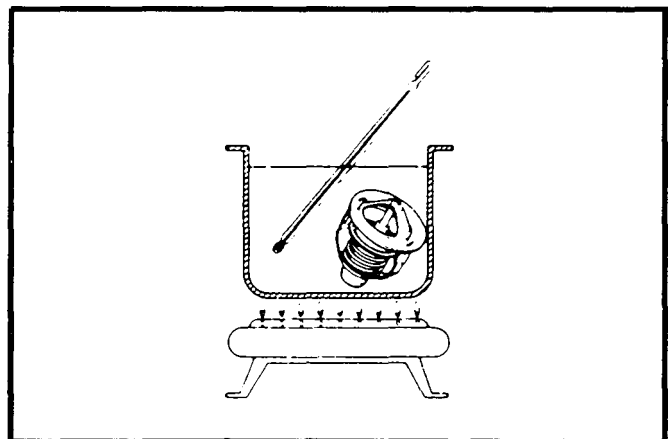

Figure 2.
4. Replace the thermostat if the valve remains open below the specified opening temperature or does not close completely. See Figure 2.